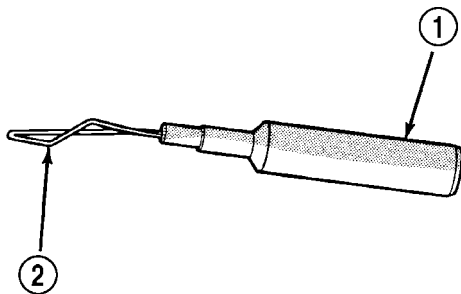

Fig. 5 PROBING TOOL
- (4) Prior to removing the ignition coils, spray compressed air around the coil area and spark plug. On 3.5L engines, it is necessary to loosen the screws by alternating back and forth. Do not lose the spacers under the coil when loosening the screws.
- (5) Remove the ignition coil (Fig. 5).
- Probing Tools - These tools are used for probing terminals in connectors (Fig. 5). Select the proper size tool from Special Tool Package 6807, and insert it into the terminal being tested. Use the other end of the tool to insert the meter probe.